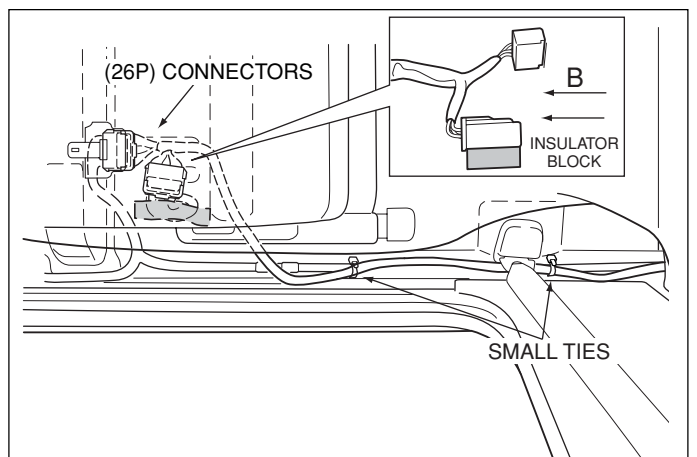

Fig. E6
- ➔ i. Secure the (26P) connector wire to the vehicle's wire harness using 2 small plastic ties with the excess wire positioned as shown. (Fig. E6)
- ➔ ii. Secure the vehicle (26P) wire harness using the (150x60mm) packing (foam tape). (Fig. E6)